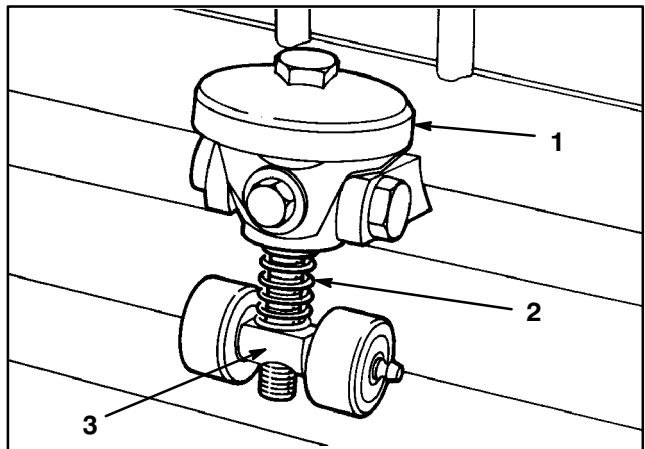

Figure 15
2. On either end of front side of reel, insert a long strip of newspaper between reel and bedknife. While slowly rotating reel forward, turn bedknife adjusting knob (Fig. 15) clockwise, one click at a time, until paper is pinched lightly, which results in a slight drag when paper is pulled.